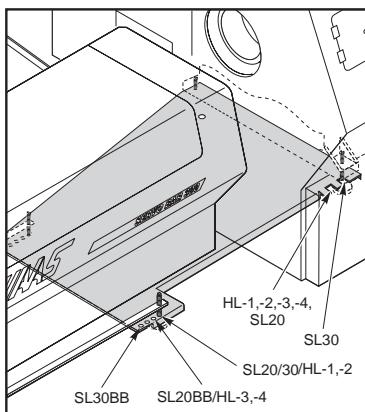

Figure 2.1 Barfeeder alignment plate to lathe
2. Position the appropriate slot (see Figure 2.1) of the alignment plate around the front left leveling screw of the lathe. Rotate the alignment plate around the front left screw until the appropriate rear alignment plate hole is aligned under the left rear leveling screw of the lathe.
Above are three other alignment plates as needed for their respective machines. Pictured in figures 2.1 and 2.2 is the alignment plate for the SL-20 and SL-30.